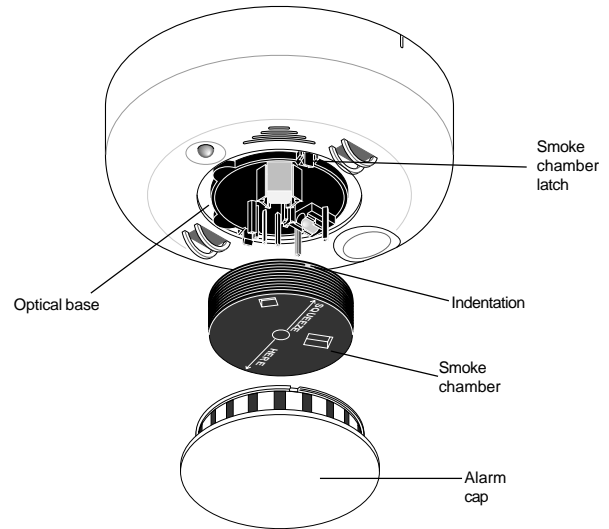

Figure 7 - Alarm Parts
4. Press in on the sides of the smoke chamber and pull it up and away from the alarm and discard. See Figure 7.